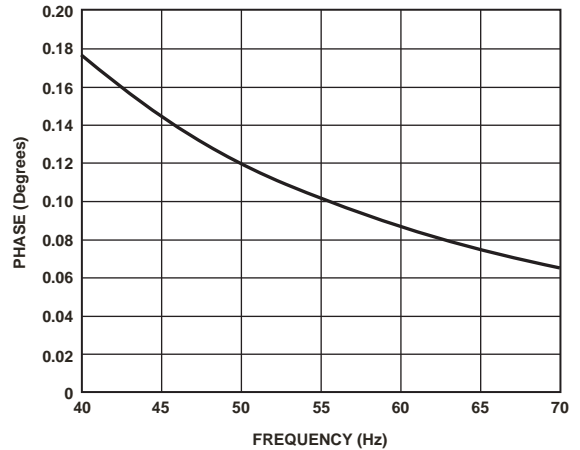
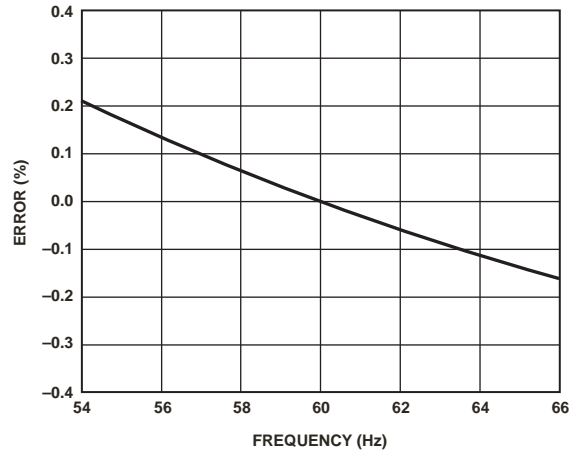

Figure 51. Combined Phase Response of HPF and Phase Compensation (40 Hz to 70 Hz)
Figure 52. Combined Gain Response of HPF and Phase Compensation
Figure 51. Figure 52 shows the magnitude response of the filter. As seen from the plots, the phase response is almost 0 from 45 Hz to 1 kHz, which is all that is required in typical energy measurement applications. However, despite being internally phase-compensated, the ADE7763 must work with transducers, which could have inherent phase errors. For example, a phase error of 0.1° to 0.3° is not uncommon for a current transformer (CT). Phase errors can vary from part to part and must be corrected in order to perform accurate power calculations. The errors associated with phase mismatch are particularly noticeable at low power factors. The ADE7763 provides a means of digitally calibrating these small phase errors by allowing a short time delay or time advance to be introduced into the signal processing chain to compensate for these errors. Because the compensation is in time, this technique should only be used for small phase errors in the range of 0.1° to 0.5°. Correcting large phase errors using a time shift technique can introduce significant phase errors at higher harmonics.